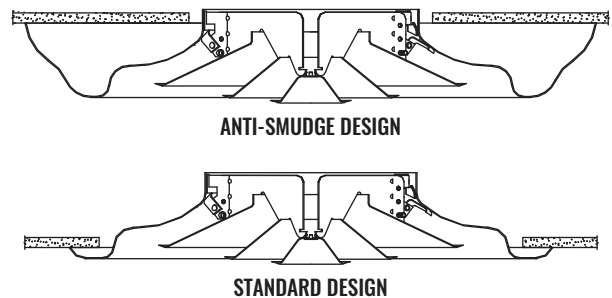

Figure 3: Smudge Ring Design
1. One such concept is the “smudge ring”. This is a raised surface at the discharge of an air device that prevents air from flowing along the ceiling right next to the outlet, as shown in **Figure 3**, where velocities are greatest. The idea is that the jet will re-entrain a short distance away. With VAV systems; however, there is a risk that cold air could fail to re-entrain at low velocity airflows (and low loads), resulting in “excessive drop” or “dumping”.